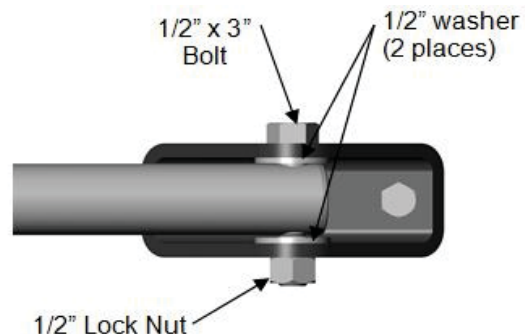

Figure 8: Bracket Installation
3. Remove the limit switch screw end caps from the Apollo 816-1K Series actuator. See Figure 8 Apollo 816-1K Series Limit Screw Adjustment.
5. Adjust the Open limit by pressing the Open button on the gate controller until the gate is fully open. Turn the Retract Limit Screw (see Figure 8 Apollo 816-1K Series Limit Screw Adjustment) clockwise or counter-clockwise as necessary until the Motor 1 LED turns GREEN.
6. Adjust the Close limit by pressing the Close button on the gate controller until the gate is fully closed. Turn the Extend Limit Screw (see Figure 8 Apollo 816-1K Series Limit Screw Adjustment) clockwise or counter-clockwise as necessary until the Motor 1 LED turns RED.